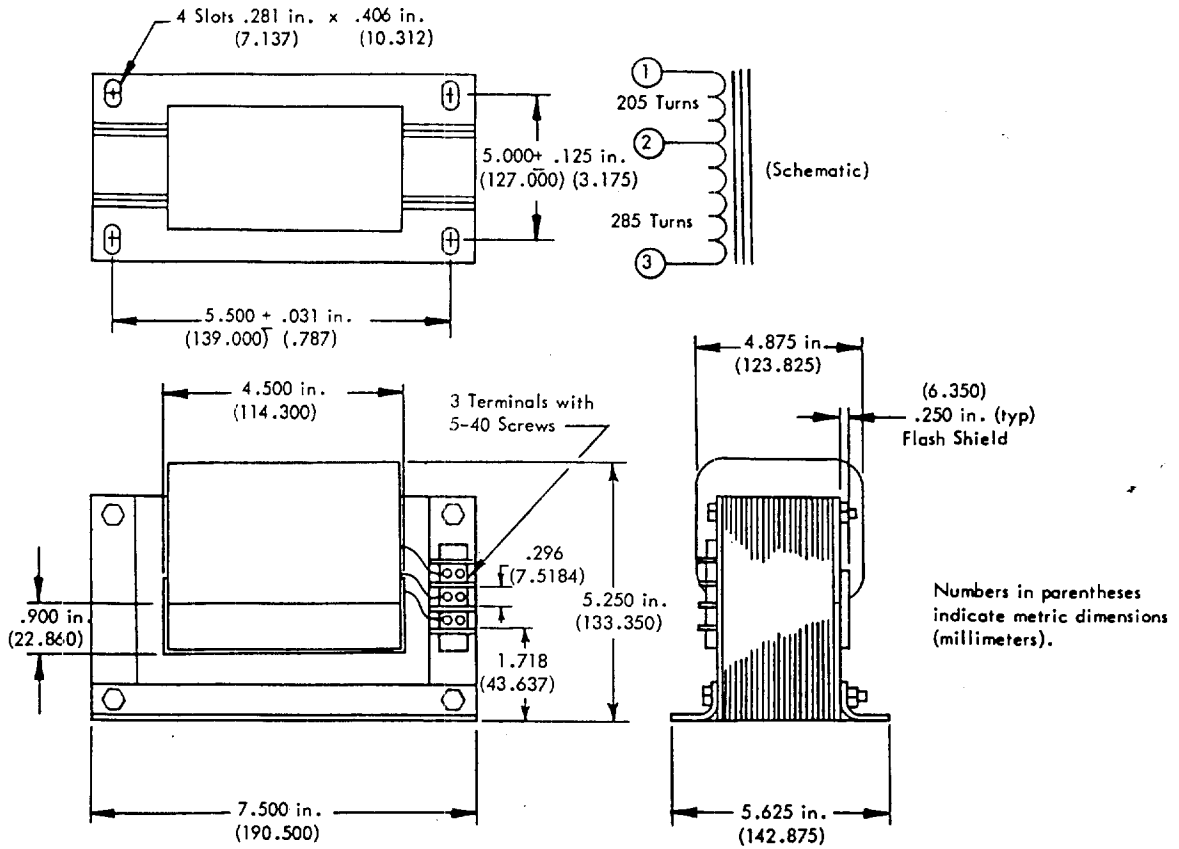
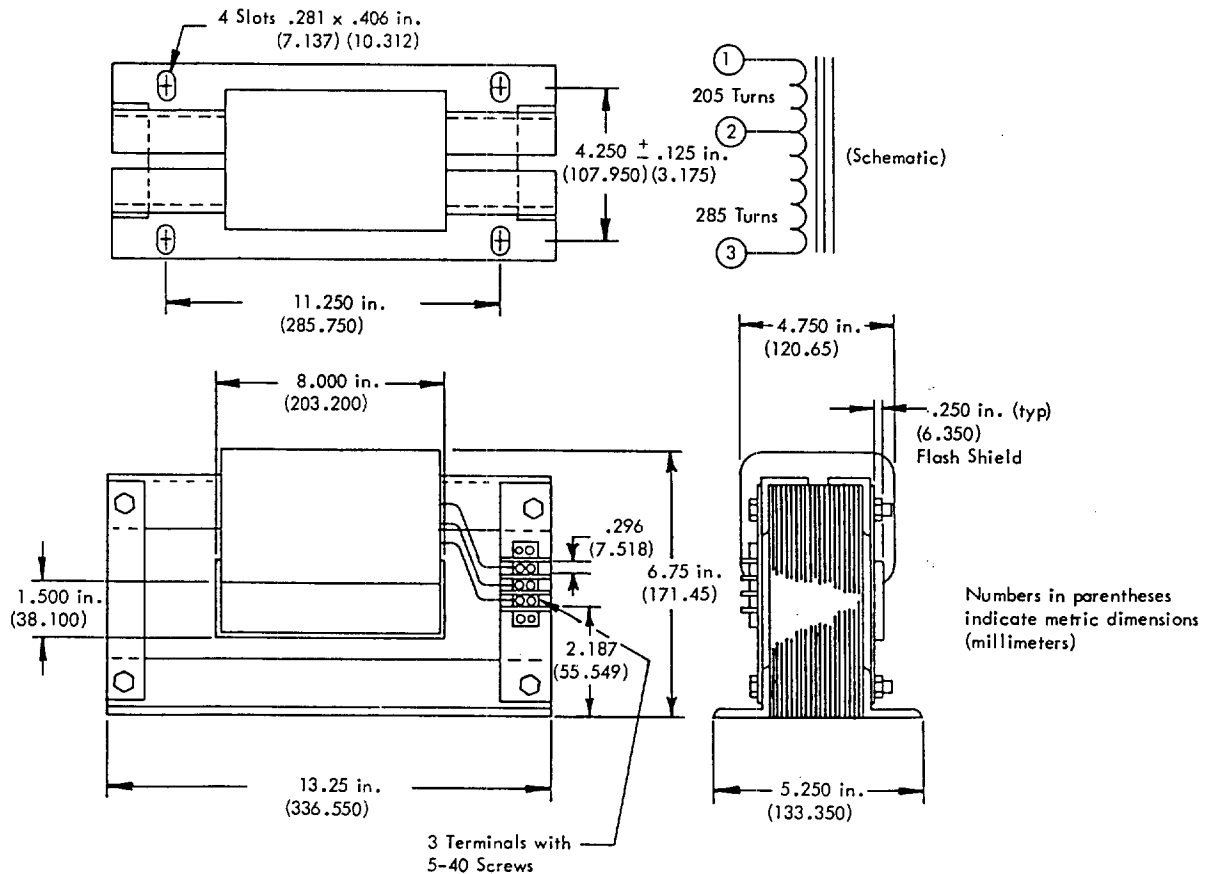

Figure 4-2A. Outline Drawing - Current Transformer Pt. no. BE 15486-001
Figure 4-2B. Outline Drawing - Current Transformer Pt. no. BE 16866-001
- a) P/N BE 15486-001 - standard size (see Figure 4-2A)
- b) P/N BE 16866-001 - larger "window" (see Figure 4-2B)
The current transformer(s) selected for use with the CBS 344 or CBS 377 system is placed in two phases of the generator output to provide a source of both operating power and current boost for the current boost module. See Figure 4-3A. Secondary coil taps are provided to select appropriate ampere turns. Two electrically identical transformers are available: P/N BE 15486-001 (standard, see Figure 4-2A) and P/N BE 16866-001 (larger cable "window", see Figure 4-2B).
See Figure 4-2A and 4-2B for the configuration of the two available CTs. (Both CTs have identical electrical characteristics - however, the CT shown in figure 4-2B has a larger "window" for accepting the generator cables).